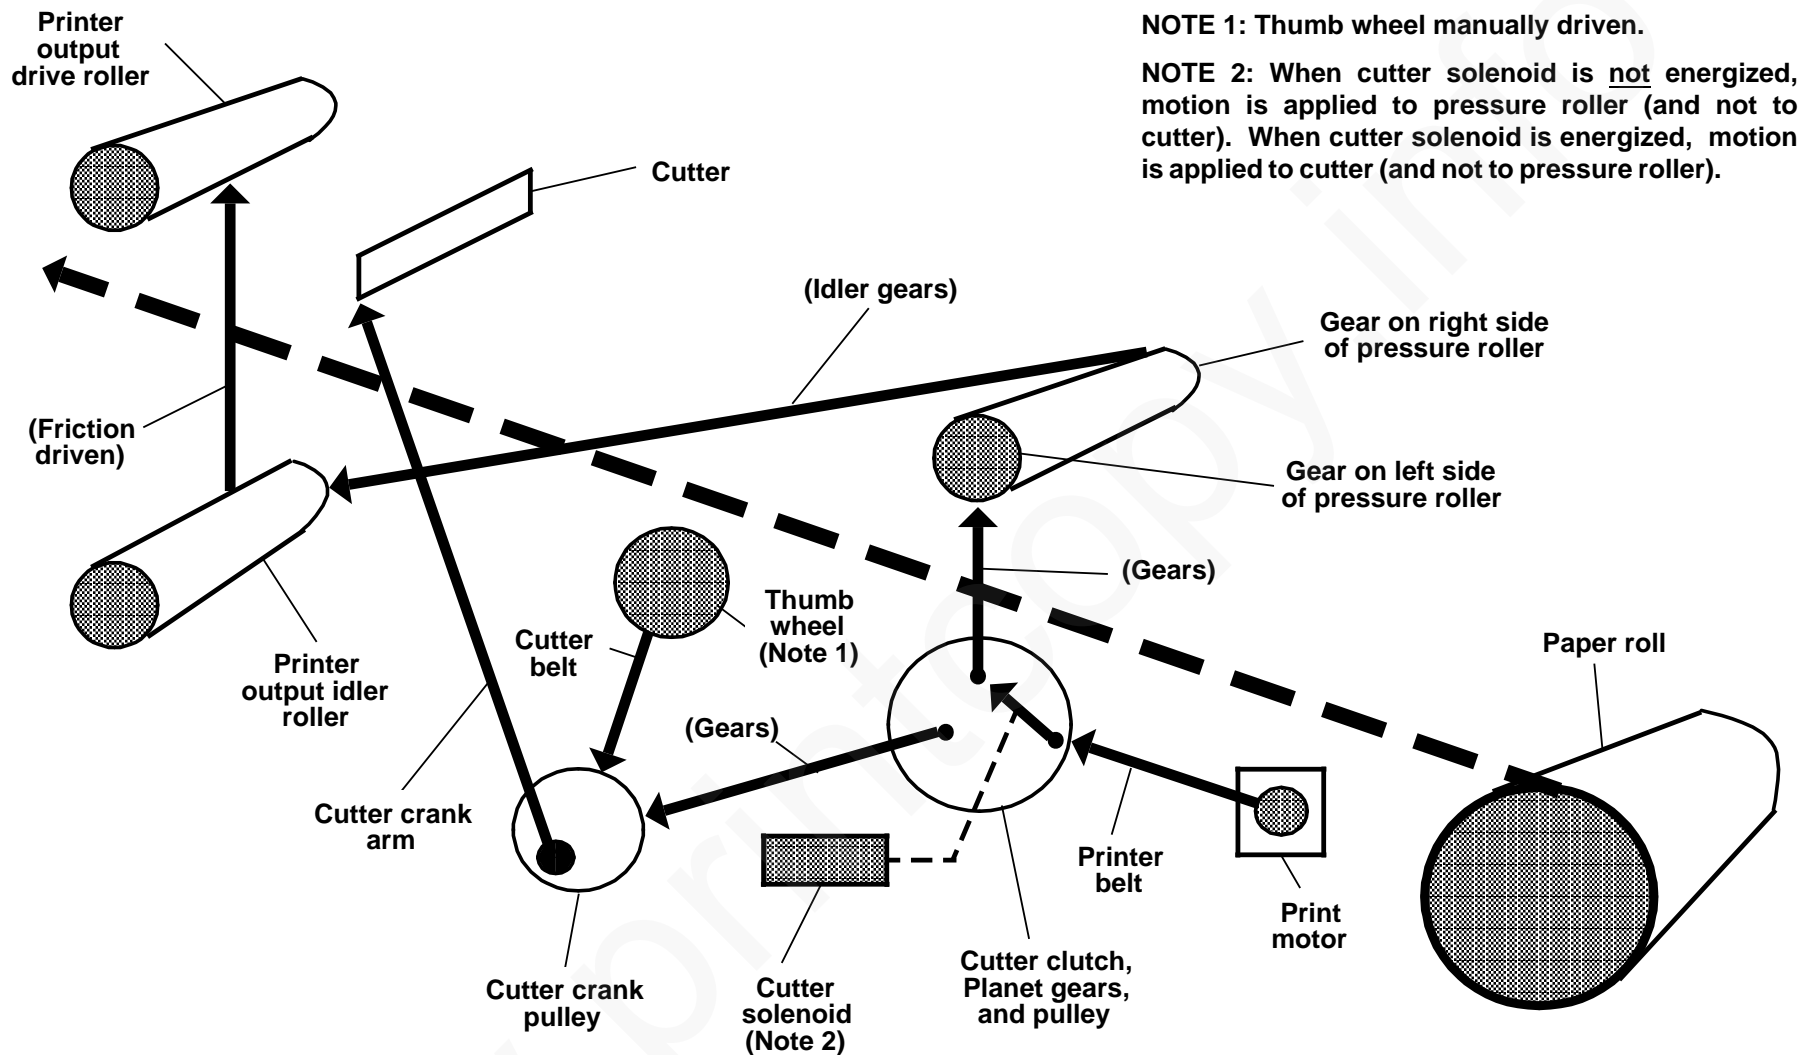

Figure 1. Print Drive System (Viewed from Left Side)
*NOTE: Refer to Figure 1 on the next page for a diagram of the scan drive system.*